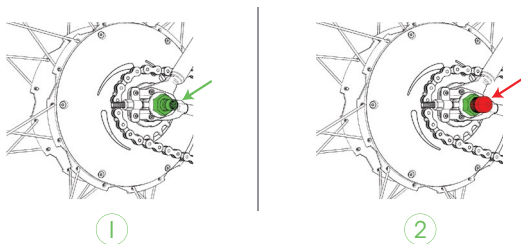

Figure 1: 6-pin charging connector (1) and protection cover (2)
- **DO NOT** use the bike without the protection covers for the charging connector (see Figure 1). Warranty is void if the bike is being used without protecting the connector.
- **IF your BIKE+ all in one has a 6 pin connector (see Figure 1), please be careful to insert the 6 pin charger plug in the 6-pin connector in the proper way.** Otherwise short circuits can occur. Warranty is void if charger is not inserted correctly. Do not short circuit the pinout of the charging connector.